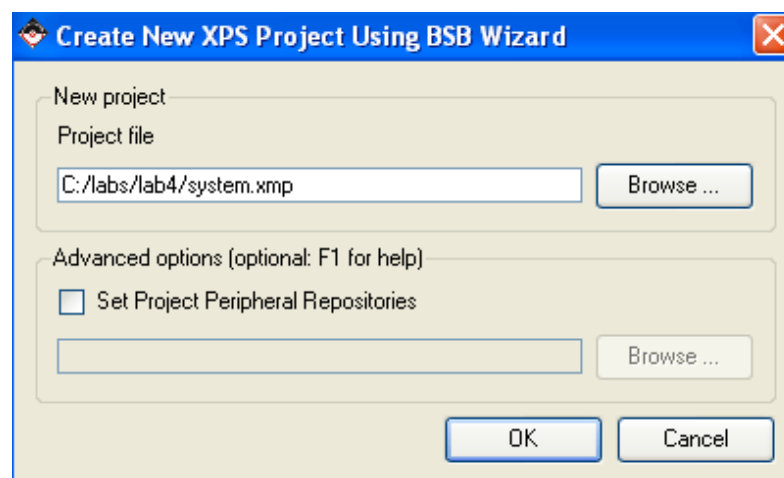

Figure 1-4. Assigning Project Directory
- ❸ Browse to **c:\labs** directory, create a new folder called *lab4* and select it, and click **Open** followed by click **Save** (**Figure 1-4**). Click <OK>.